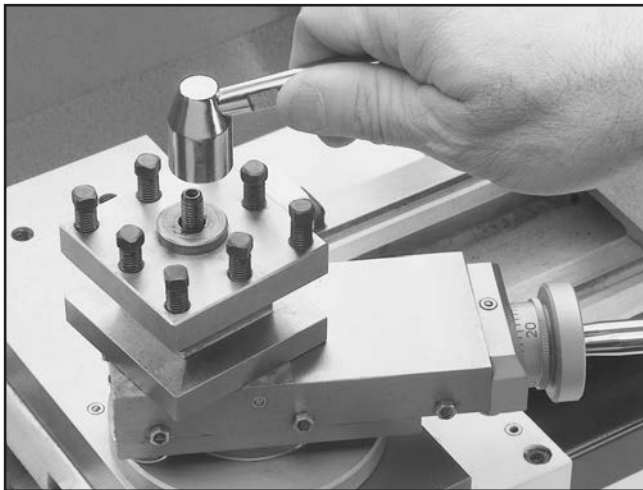

Figure 20. Removing tool post lock handle.
1. Rotate the tool post lock handle counter-clockwise to remove it as in **Figure 20**.